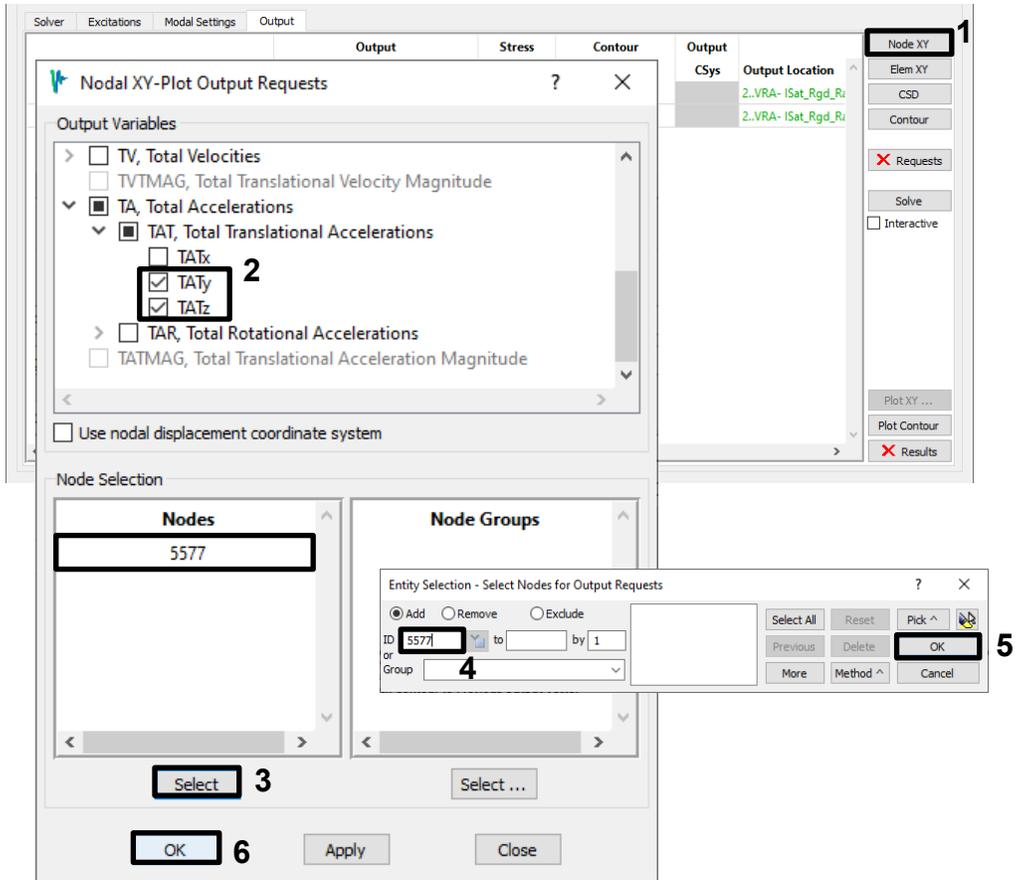
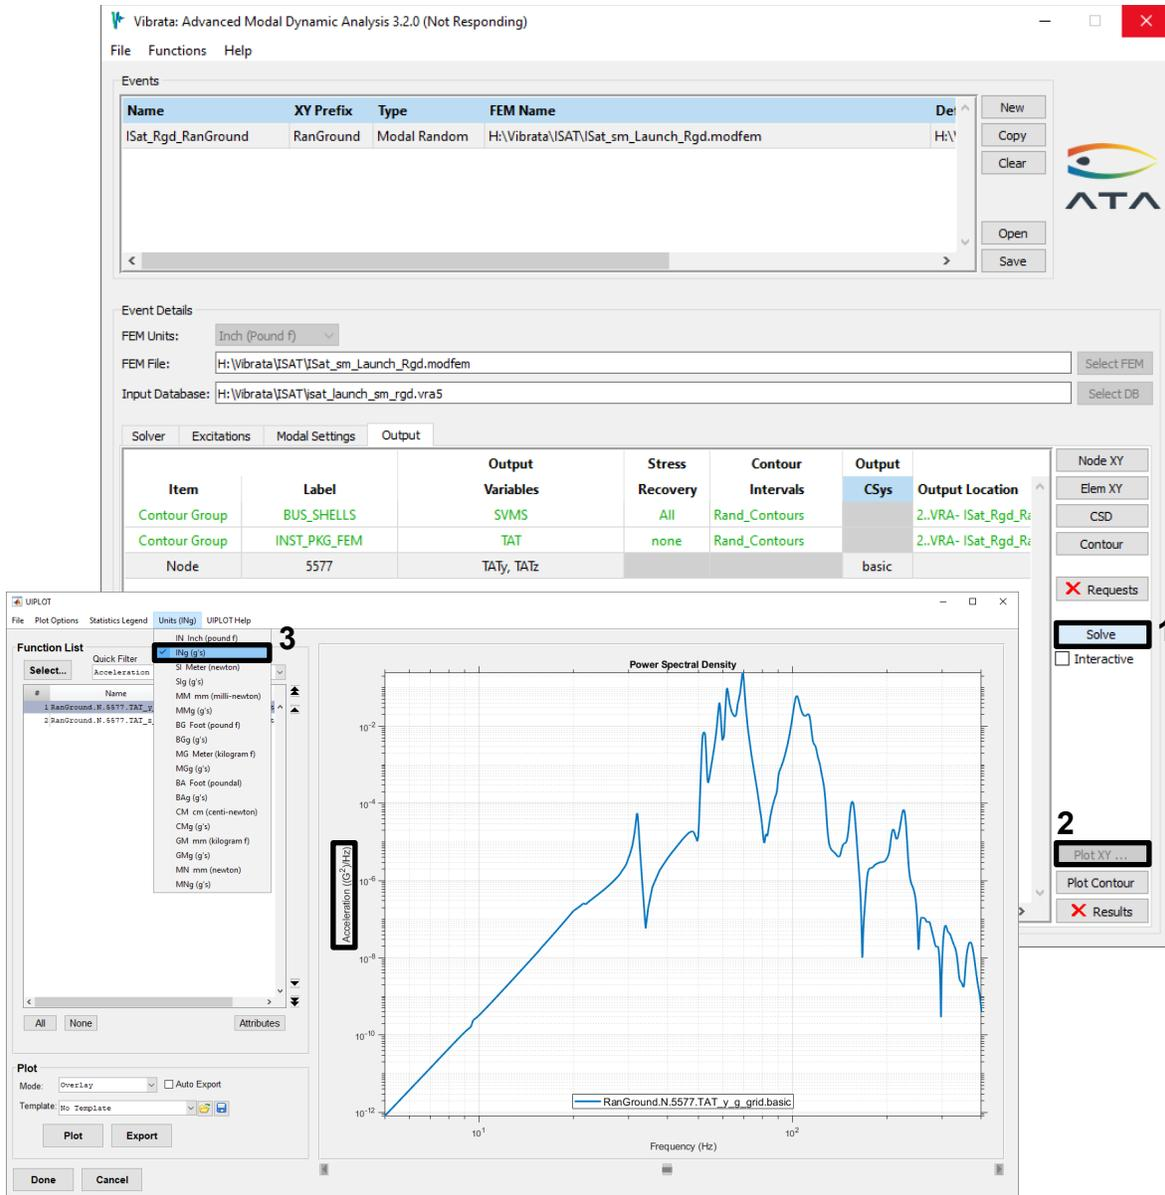

Figure 4-47. Request Y- and Z-direction total accelerations for node 5577.
Figure 4-48. Node 5577 total Y-acceleration in  $g^2/Hz$  units, rigid base.
8. The highest RMS acceleration occurs at node 5577 for Y-acceleration. That node also shares the highest Z-acceleration, although it is lower than the Y-direction. You would like to know the frequencies at which the largest responses occur, so create a Node XY output request for that node and those directions (Figure 4-47). (You can request X-acceleration if you wish, but it will clutter the plotting displays.) Solve this new request and plot the Y-acceleration function (Figure 4-48). Set the display units to "IN (G's)" to see the responses in  $g^2/\text{Hz}$  rather than  $(\text{in}/\text{s}^2)^2/\text{Hz}$ .